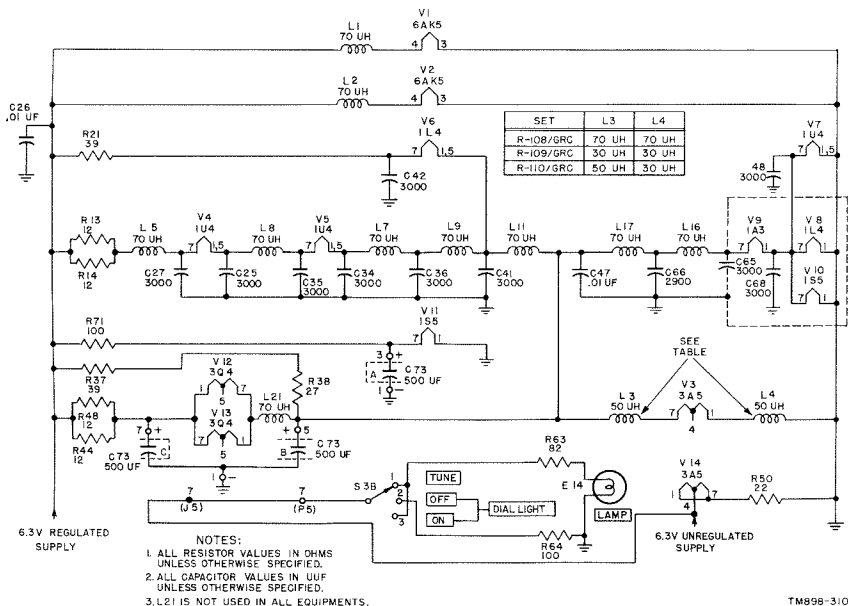

Figure 24. Filament circuits.
(figs. 24 and 25)
a. The filaments of the tubes in the receiver are arranged in several 6-volt series-parallel strings as shown in figure 24. The 6-volt tubes, V1 and V2, each represent one string. Isolating chokes and filter capacitors are used throughout to prevent ac currents in one stage from entering tubes in the same or associated strings. This is particularly true of hf circuits. Voltage-dropping
resistor R21, in series with V6, resistors R13 and R14 in series with V4 and V5, and resistor R71 in series with V11 drop the 6.3V input to the required value. Ripple filters are inserted in series with filaments of tubes that require a high degree of stability in operation. The filter composed of voltage-dropping resistor R71 and filter capacitor C73A therefore is connected in series with the filament of V11. Similarly, the parallel arrangement of voltage-dropping resistors R44 and R48 and capacitor C37C constitutes a ripple filter for the filament supply of V12 and V13. Resistor R38 and capacitor C73B form a ripple filter for the supply to the receiver oscillator tube V3. The series arrangement of R37 and R38 is shunted across the portions of the filament strings as shown in figure 24 to limit the current flow through V12 and V13 filaments to the required values.